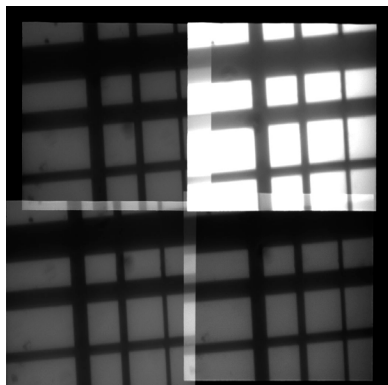

Figure 11. Correct positioning of lower left image.
4. Using the U/D and R/L knobs associated with the *lower left image*, move the image so that its bottom edge is aligned with the bottom of the CCD and its left edge is aligned with the left edge of the CCD (**Figure 11**).